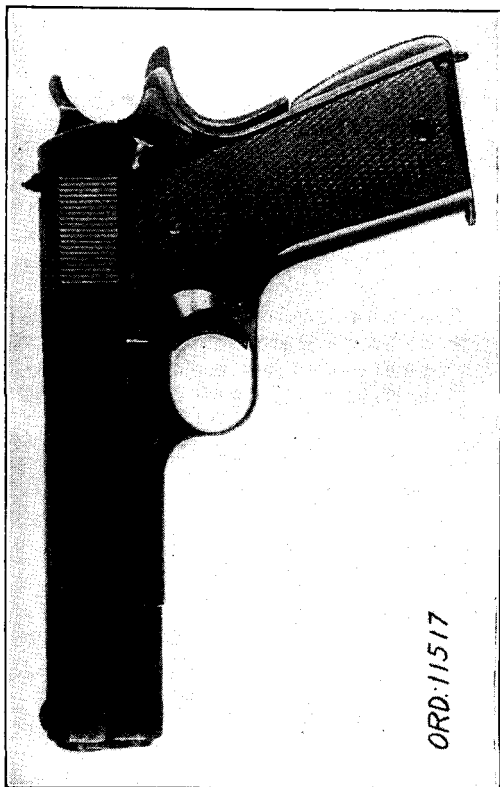

FIGURE 2.—Automatic pistol, caliber .45, M1911A1.
b. The M1911A1 pistol is a modification of the M1911 pistol. The operation of both models of pistols is exactly the same. The changes consist of the following (fig. 2):
(1) The tang of the grip safety is extended better to protect the hand.
(2) A clearance cut is made on the receiver for the trigger finger.
- (3) The face of the trigger is cut back and knurled.
- (4) The mainspring housing is raised in the form of a curve to fit the palm of the hand and is knurled.
- (5) The top of the front sight is widened.